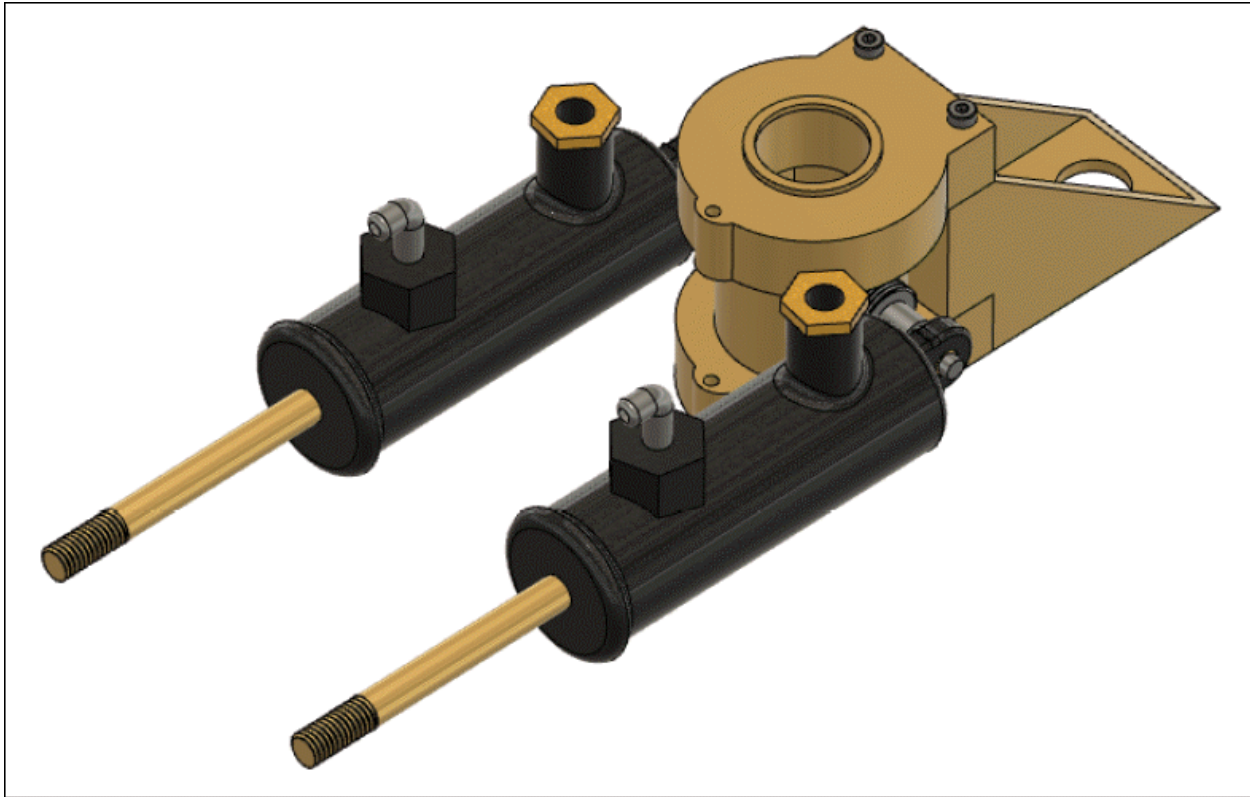

Figure-100. Final assembly of components
- After specifying the parameters, click on **OK** button from the dialog box to complete the process. The final assembly of components will be displayed; refer to Figure-100.